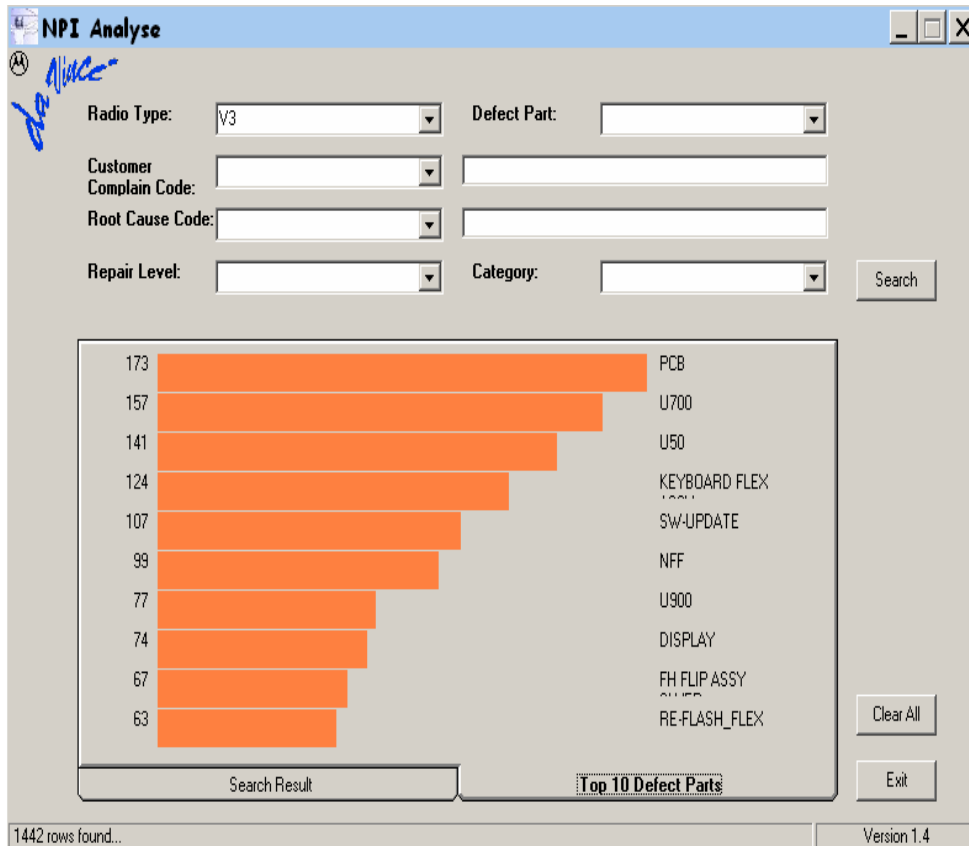

Fig. 1
- Fig. 1 shows a analysis-summary of the phones repaired in NPI- process related to the first repair works at all.